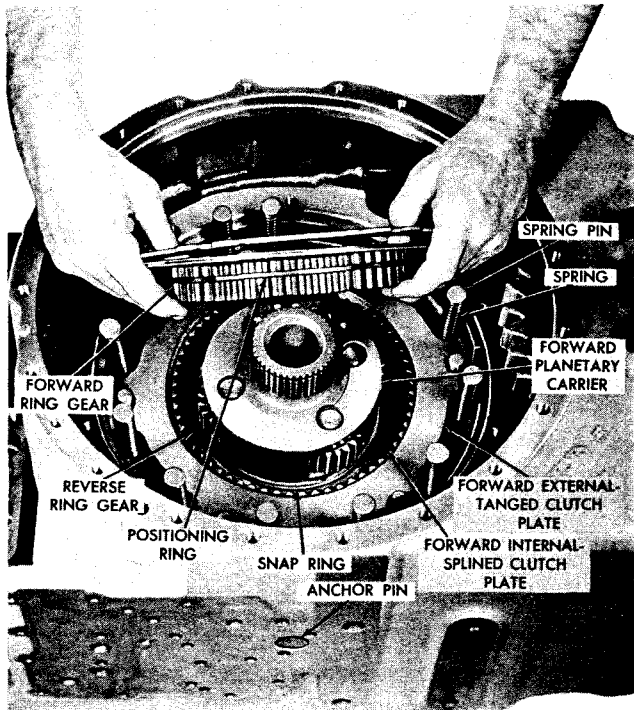
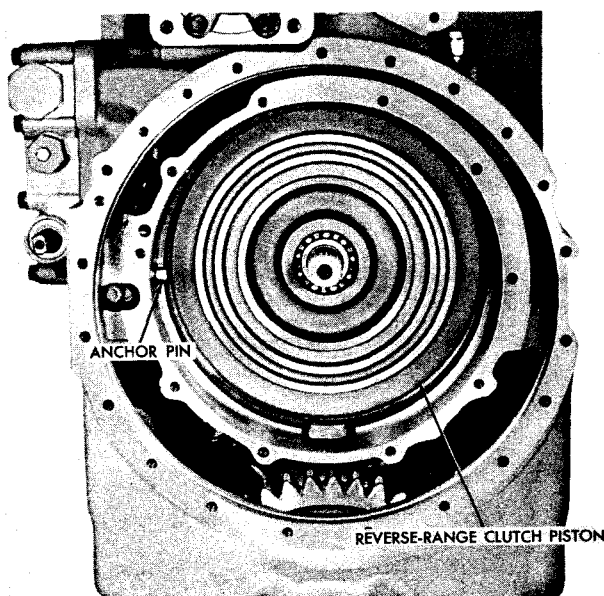

Fig. VII-2. Installing forward-range clutch plates, ring gear, springs and pins
Fig. VII-10. Reverse-range piston and anchor pin installed
and two external-tanged clutch plates (fig. VII-2).
(2) Install forward-range planetary carrier and reverse-range ring gear (fig. VII-2).
(3) Install the forward-range ring gear (fig. VII-2).
(4) Install one internal-splined and one external-tanged clutch plate (fig. VII-2).
(5) Install 12 springs and 12 springpins (fig. VII-2). The correct springs have green paint on one end.
(3) With reverse-range piston in place, slide the above wired assembly into place, aligning the anchor to the anchor pin (fig. VII-10 and -11).
(4) Make certain the assembly is securely seated and remove the wire or cord.
(5) Install the double-sun gear, forward-range planetary carrier, forward-range ring gear and clutch plates (fig. VII-11), (fig. VII-2).